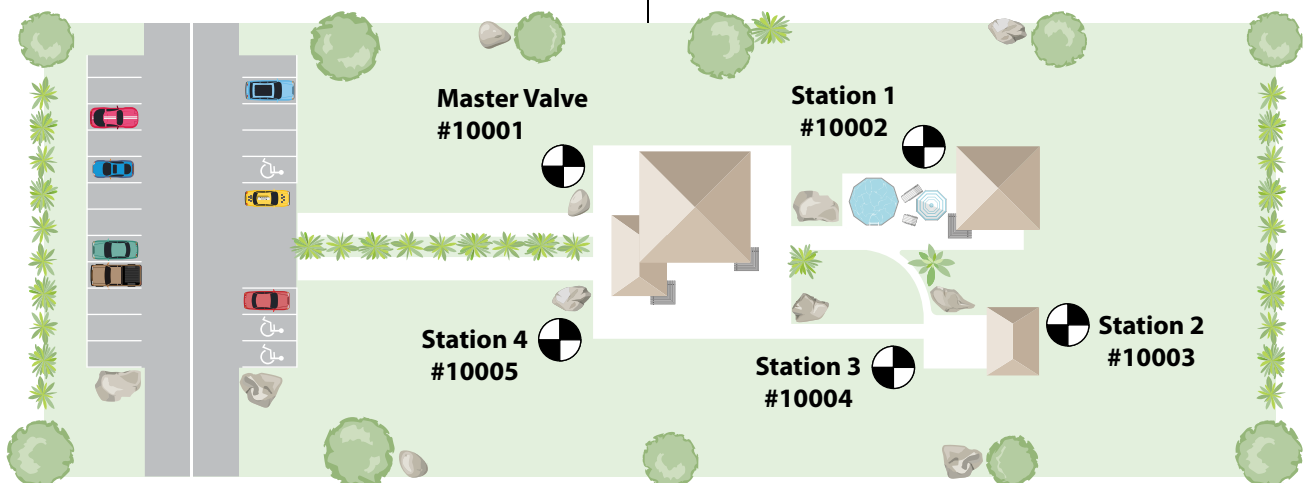

Figure 1 - Example of Site Layout with Master Valve.
- See Figure 1 for example of decoder addressing with master valve.